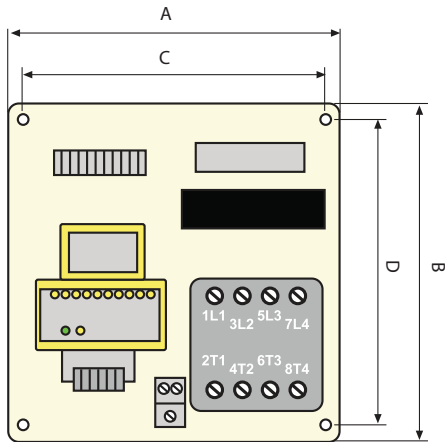

Figure 3 - Dimensions of LifeGuard, backplate only
Refer to Figure 3 below for dimensions. The GFCI must be mounted in a location sufficient to protect live electrical equipment. Use four (4) #10 screws for mounting. The vertical clearance of the backplate is 6" for models less than 100 A, and 8" for 100 A models.